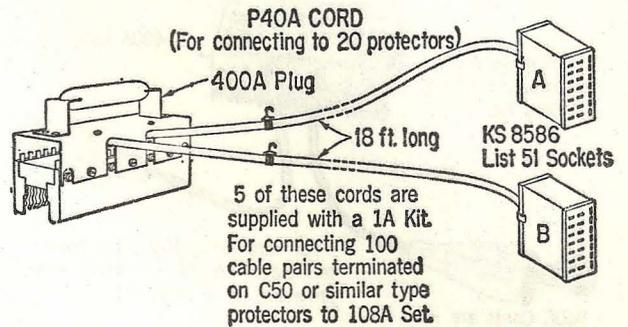

Fig. 8
4.06 P40A Cord: This cord is illustrated in Fig. 8.